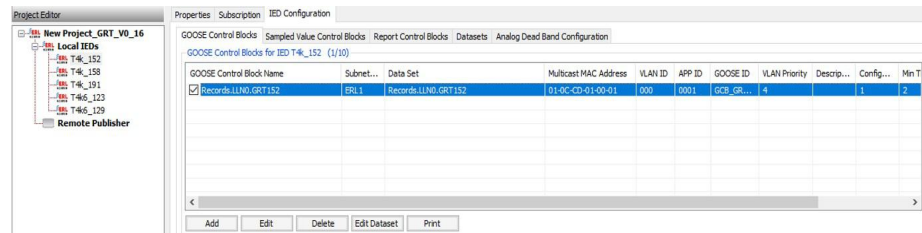

Figure 15.6: Create GOOSE Control Block for Group Record Trigger
2. Create a GOOSE Control Block to include this dataset, publishing a GOOSE message for the Group Record Trigger (Figure 15.6).